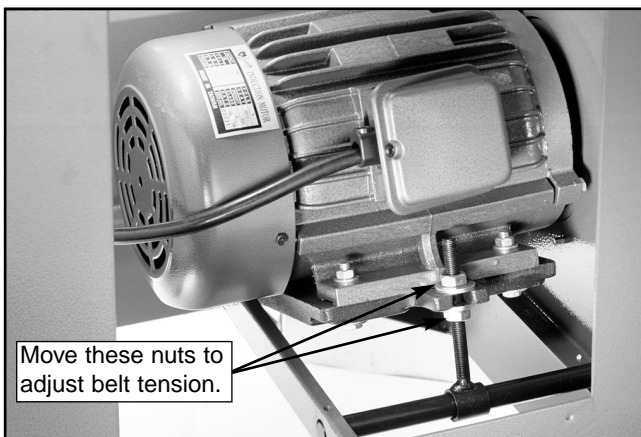

Figure 32. Adjusting belt tension.
2. The motor pivots on a platform which is suspended at one end by a threaded adjustment bolt. Adjust the two locknuts up or down the shaft until the desired belt deflection is achieved. **See Figure 32.**